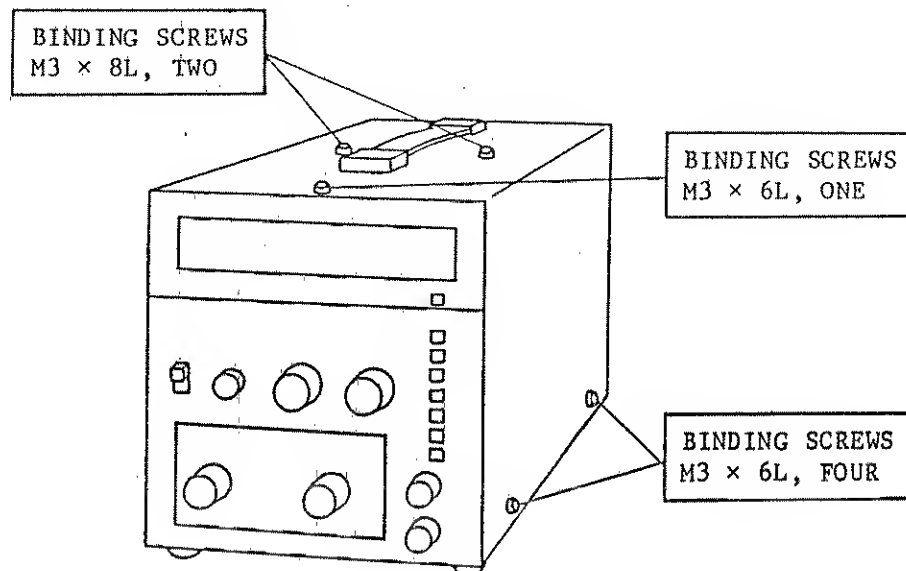

Figure 2.8.2 Case Binding Screws Location
- b. Remove the seven case binding screws shown in Figure 2.8.2 and remove the case.